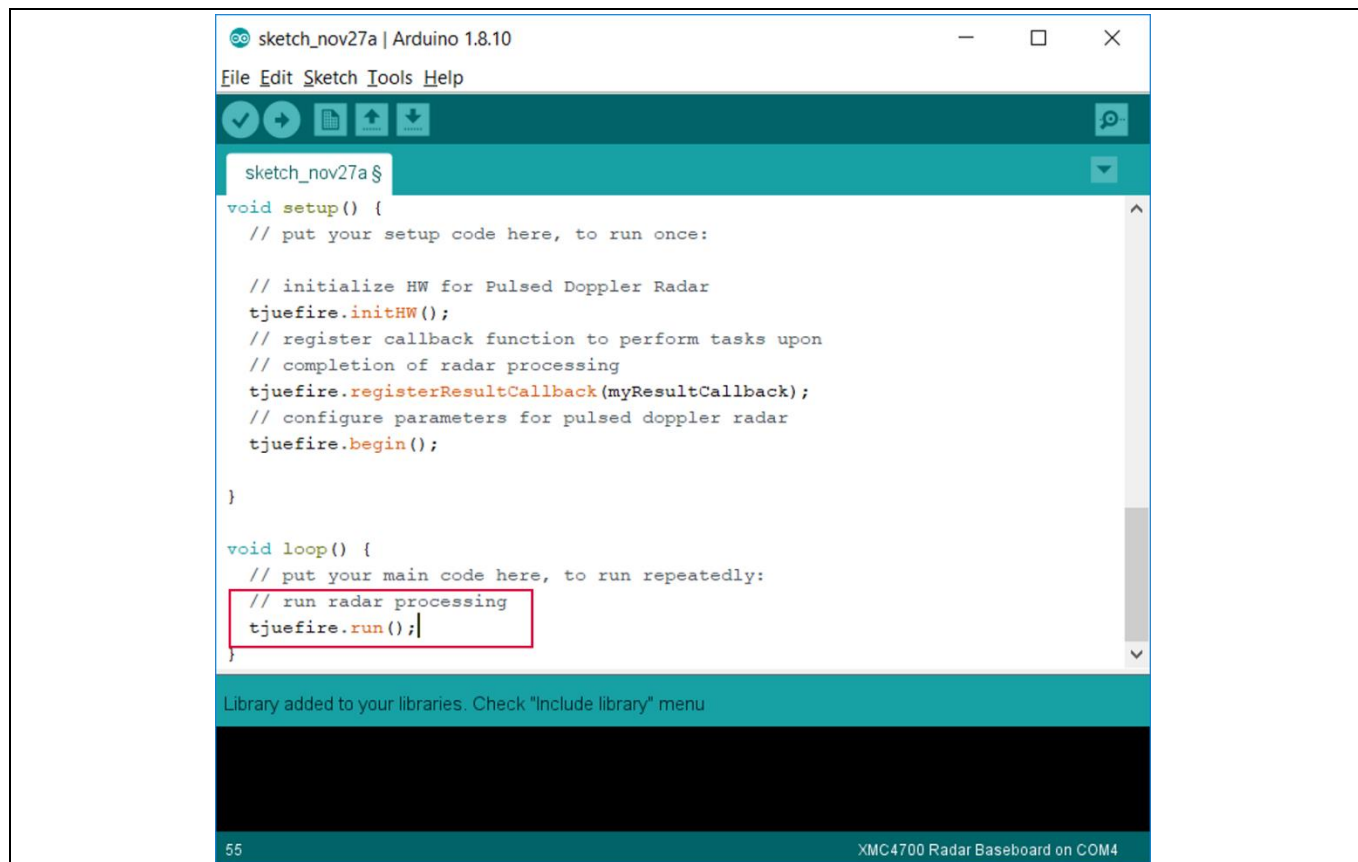

Figure 15 Call run() in main loop()
- Finally, add the `run()` API in the `loop()` routine to run the radar processing (Figure 15).